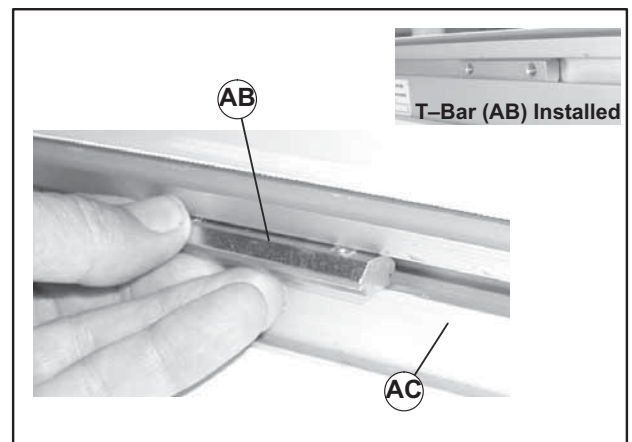
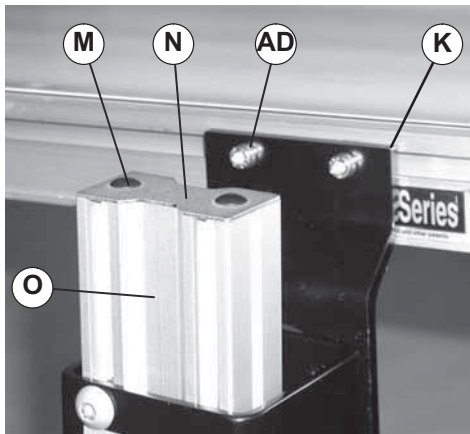

Figure 11
Figure 12
- Install one t-bar (Figure 11, item AB) in bottom t-slot on each side of conveyor (AC).
16. Attach pivot bracket (Figure 12, item K) to t-bar (Figure 11, item AB) with two socket head screws (Figure 12, item AD). Do not tighten screws.
18. Tighten four socket head screws (Figure 12, item AD) to 124 in-lb (14 N-m).
22. Attach tube end cover (Figure 12, item N) on stand leg (O) with two plastic tree rivets (M).